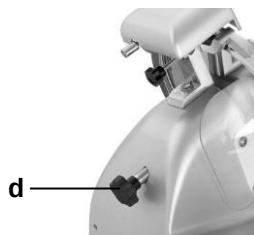

Fig. 12
- In order to remove the knife cover (3) for cleaning loosen the fixing screw (d) on the back side of the device (fig. 12) and push it towards the knife cover. Remove the knife cover.